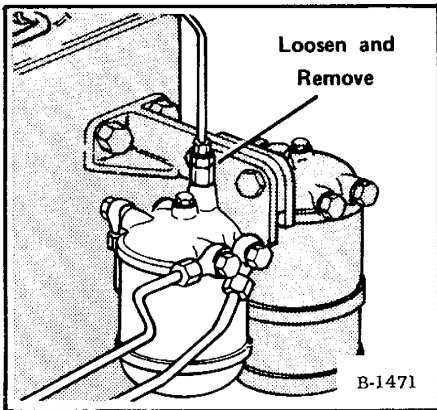

Fig. 41 Fuel Filter Vent
3. Loosen and remove fuel outlet pipe assembly on top of filter cover (Figure 41).
- a. Fuel filter outlet pipe assembly (Figure 41).